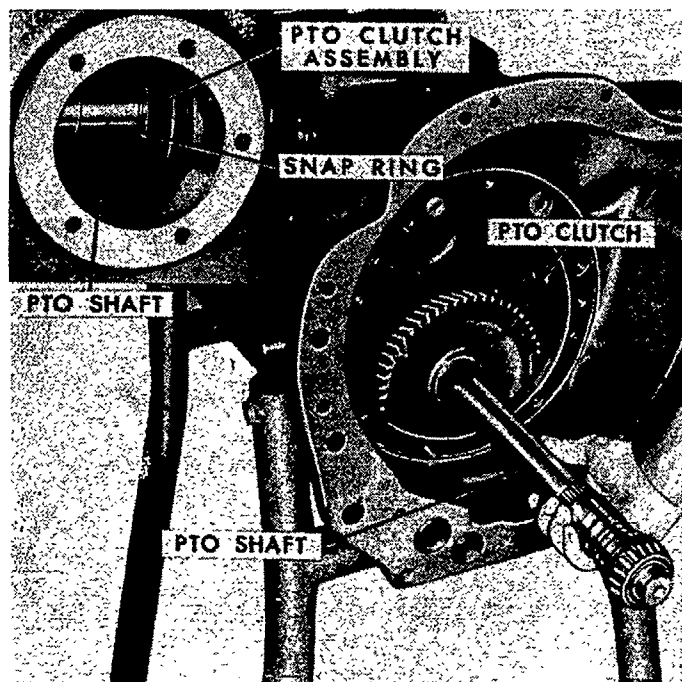

Figure 72
3. Place the transmission on a suitable stand, as shown in Figure 72.